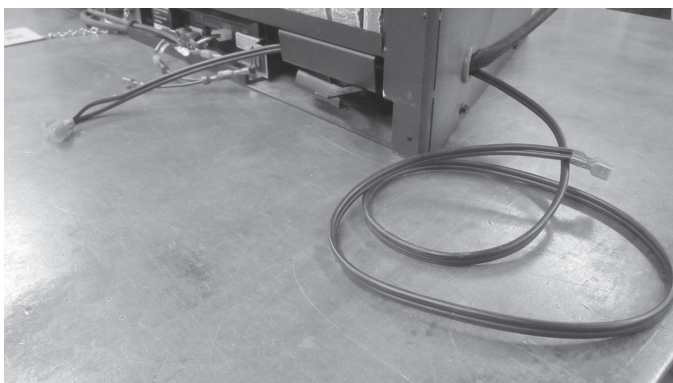

Figure 6.10
10. Insert the male connectors on the SRV30007499 wire through the grommet on the outer surround of the insert. The male connectors go inside of the insert. See Figure 6.10.